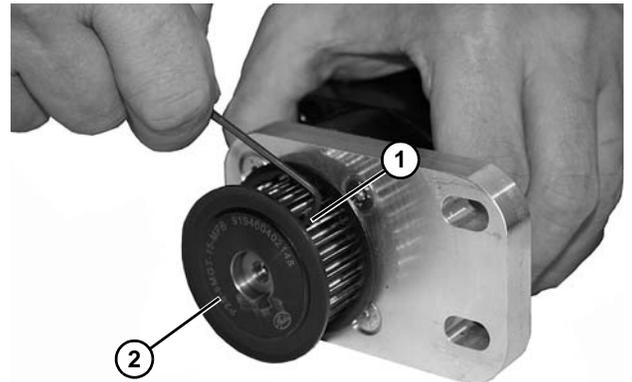

Figure 151
11. Loosen two set screws (Figure 151, item 1) holding drive motor gear (Figure 151, item 2) onto drive motor shaft.
Take note of the drive motor gear (Figure 151, item 1) placement. When reassembling the drive motor gear, it should be reassembled to the exact same location on the shaft.